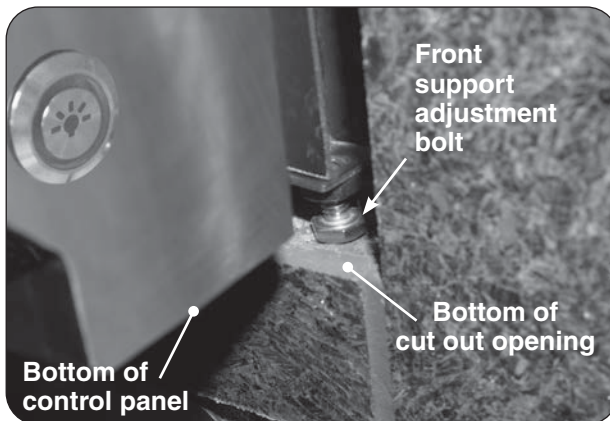

Fig. 20-3 Front support adjustment bolts
This outdoor built-in grill must be supported by the stainless-steel hanger extending from the upper portion of the grill. The hanger rests on the left, right, and back of the countertop and on the two front support adjustment bolts located below the control panel on the gas grill side (see Fig. 20-3).
2. Rotate the front support adjustment bolts to the left to raise and to the right to lower the respective side of the appliance. Use a $\frac{7}{16}$ " open-end wrench as needed. See Fig. 20-3.